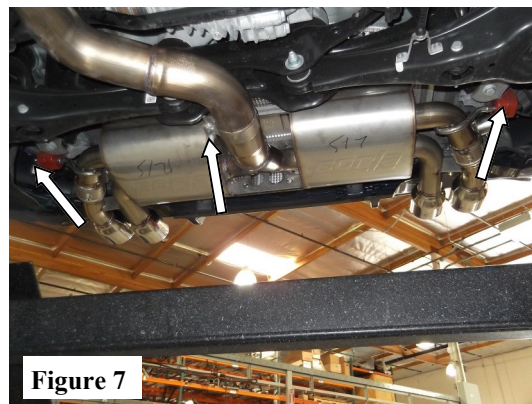

Figure 7
3. Place the Accuseal clamp over the mid pipe Assembly, and insert into the rear Muffler Assembly, insert the hangers into the rubber isolator and connect electrical valve. Re install bolts to the cross brace. (See Figs. 7) **DO NOT tighten the clamp.**